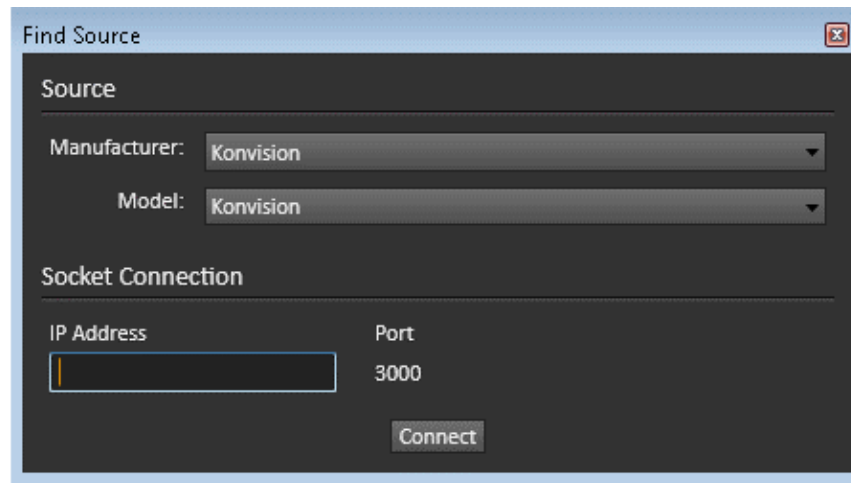

Figure 1. CalMAN Find Source dialog for connecting to Konvision internal test pattern generator.
2. On the *Find Source* dialog (Figure 1), under *Manufacturer*, select “Konvision.”